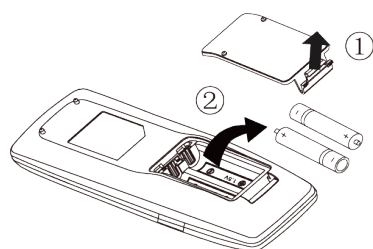

Fig.22
(1) Lift the cover along the direction of arrow (as shown in Fig 22).
(2) Take out the original batteries (as shown in Fig 22).